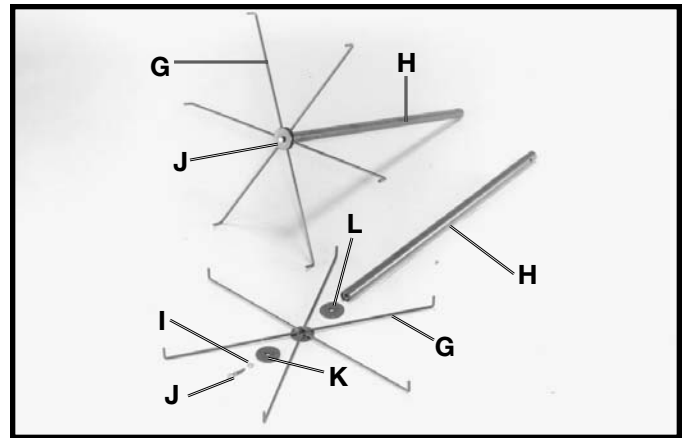

Fig. 23
3. Assemble six-position filter bag hanger assembly (G) Fig. 23, to the top half of the upper bag support (H). Place a 5/16" lockwasher (I) onto a 5/16-18x1¼" hex head screw (J), place a special washer (K) (30mm O.D., 8mm I.D., 3mm thick), onto the screw, insert the screw through the filter bag hanger and place special washer (L) (30mm O.D., 8mm I.D., 3mm thick) onto screw. Thread the screw into the top half of upper bag support. Assemble the remaining six-position hanger to the other upper bag support (H) in the same manner.